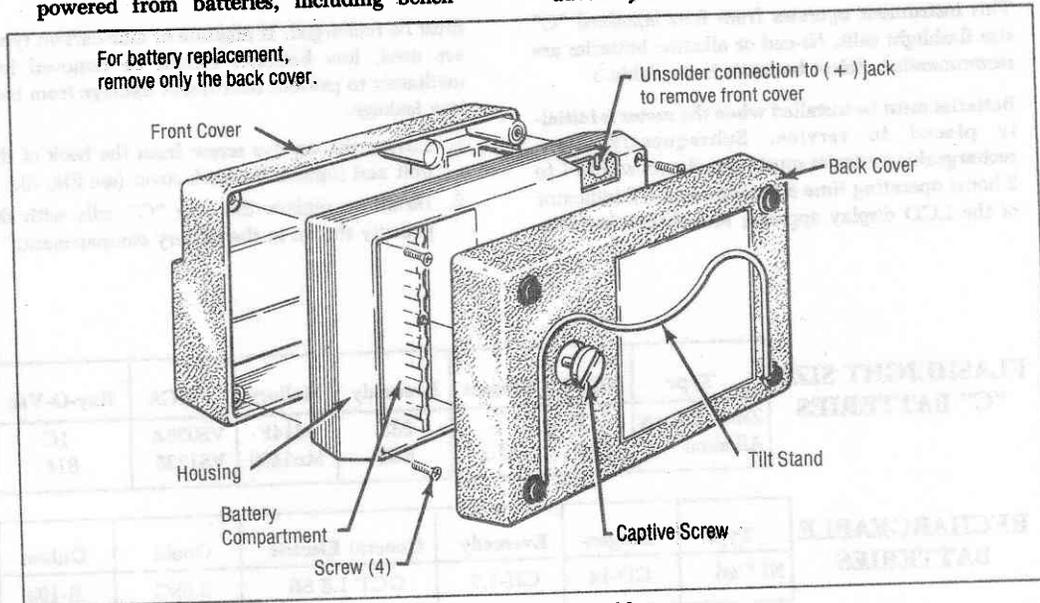

Fig. 5. Disassembly
1. Loosen the captive screw from the back of the unit and remove the back cover (see Fig. 5).
DISASSEMBLY (refer to fig. 5)
2. Remove the front and back covers as shown in Fig. 5, then replace the batteries. Do not use a power supply. Circuit boards should remain in the housing for calibration adjustments.